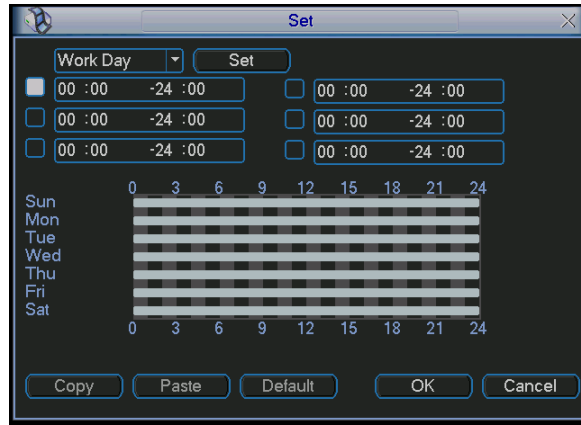
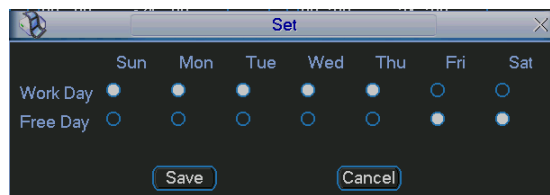

Figure 5-64
Figure 5-65
- Period: Click set button, you can see an interface is shown as in Figure 5-64. Here you can set for business day and non-business day. In Figure 5-64 click set button, you can see an interface is shown as in Figure 5-65. Here you can set your own setup for business day and non-business day.